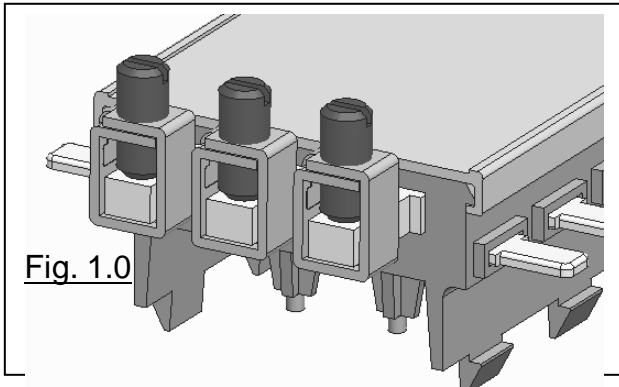

Fig. 1.0
- Using **18LKD70** cable kit terminal cages, from the top of the busbar, connect the Voltage loom to the bottom of protection fuses. See fig 1.0